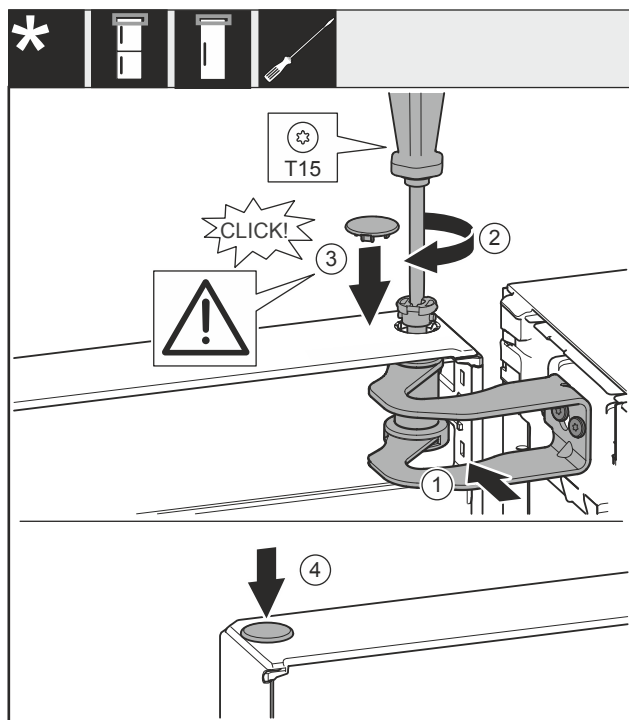

Fig. 36
- Align the door with the opening in the swap bearing block Fig. 36 (1).
- Insert the bolt Fig. 36 (2) and use screwdriver to tighten it.
- Insert the cover Fig. 36 (3).
- Check that the cover Fig. 36 (3) is resting on the door.
- Insert the cover Fig. 36 (4).